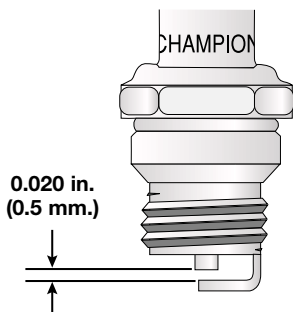

Fig. 42
3. Replace cracked, fouled or dirty spark plug. Set the air gap at **0.020 in. (0.5 mm.)** using a feeler gauge (Fig. 42).